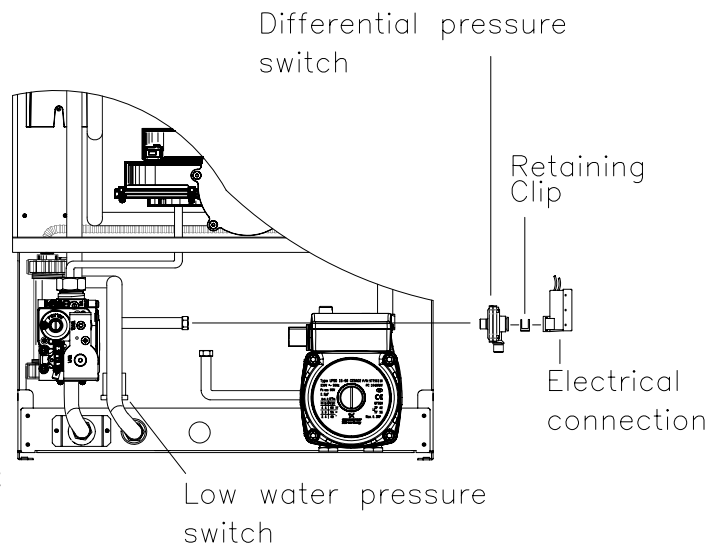

**Fig.49**
**8.13 TO REMOVE/REPLACE LOW WATER OR DIFFERENTIAL PRESSURE SWITCH (Fig. 49).**